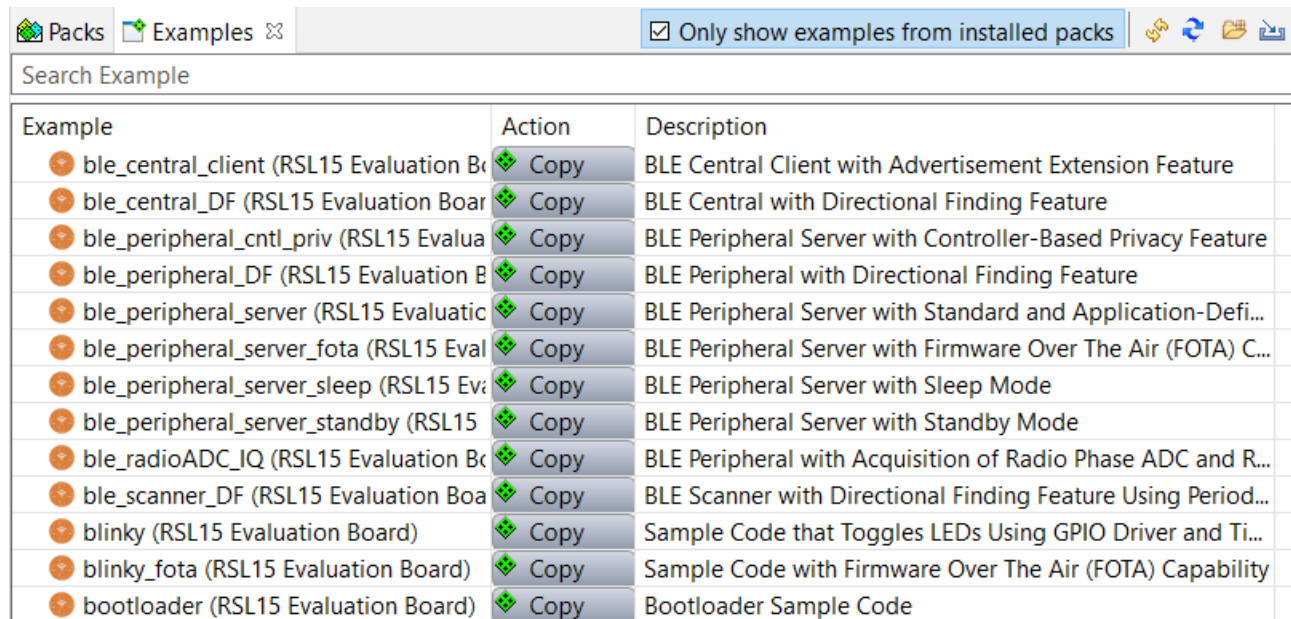

Figure 5. Importing the FOTA Sample Project
2. Find the *ble_peripheral_server_fota* example project and click the **Copy** button to import it into your workspace. (See the figure "Importing the FOTA Sample Project" (Figure 5).)